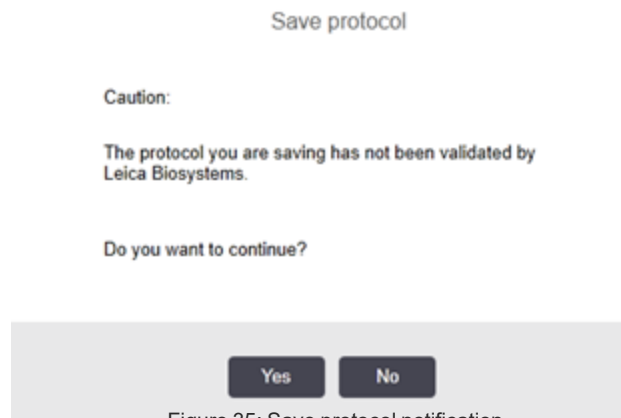

Figure 35: Save protocol notification
6. Read the notification and click **Yes** (see Figure 35).